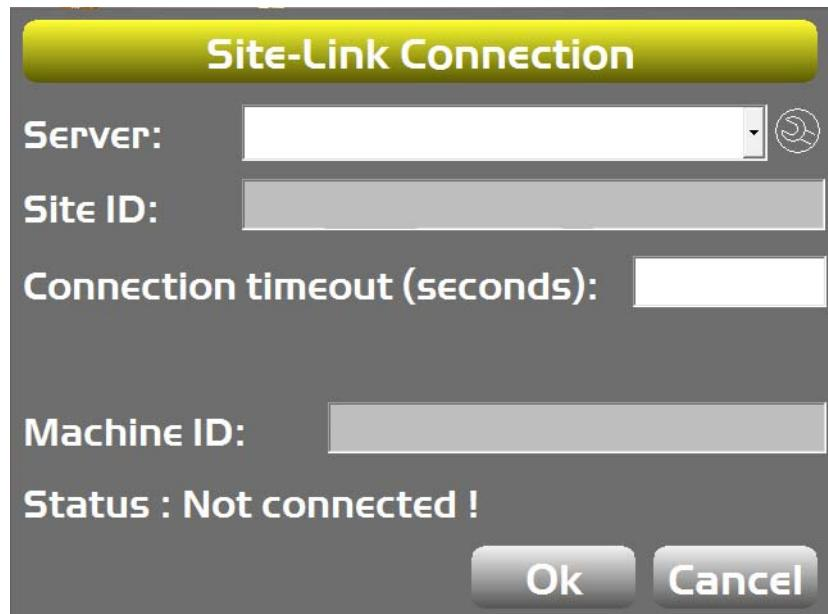

Figure 18. 3DMC SiteLINK Server Connection
2. Tap the **Wrench** icon  to the right of the **Server** field, and use the on-screen keyboard to enter the SiteLINK Server IP address and Port in the format XXX.XXX.XXX.XXX/PPPPP where X is the IP address and P is the Port Number as provided by the SiteLINK server administrator (Figure 18). Press **Ok**.